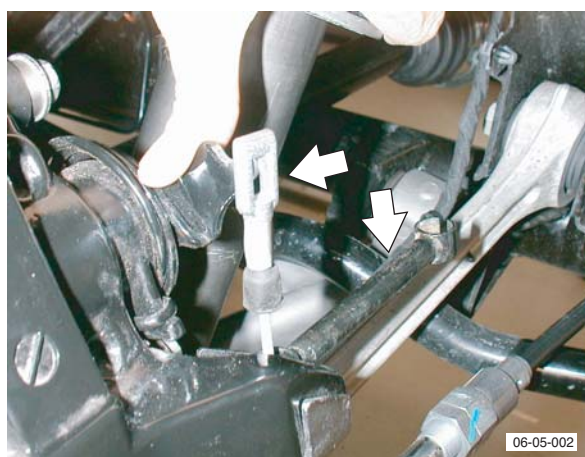

Fig. 1
5. Release inner cable eyelet from lever, compress ring clip (special tool) and remove cable (see Fig. 1).